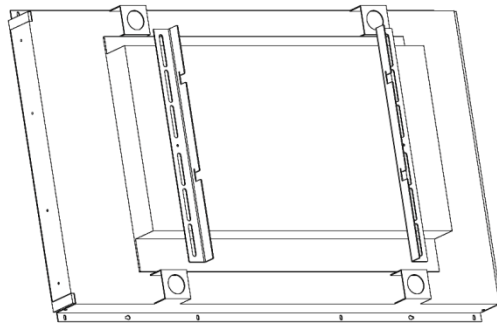

Figure 4
STEP 10: Using the diagram shown in Figure 4, fasten the brackets with the 4 or 6 screws suited to your LCD Display type.